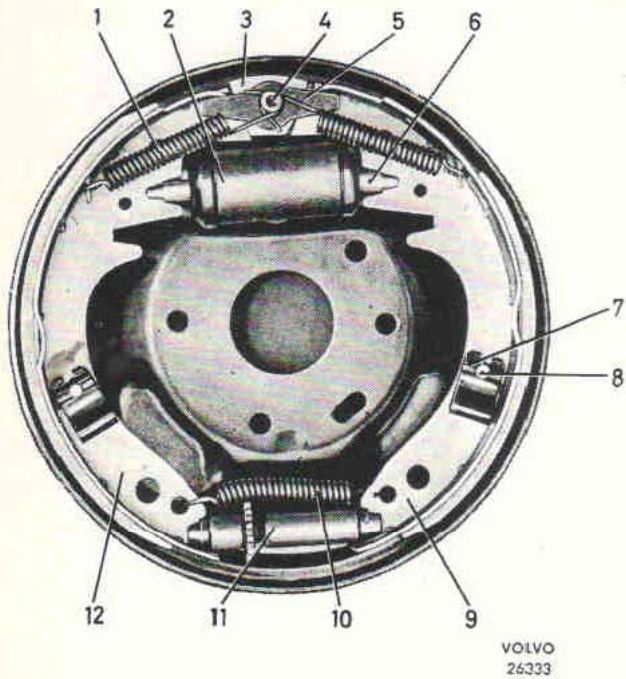
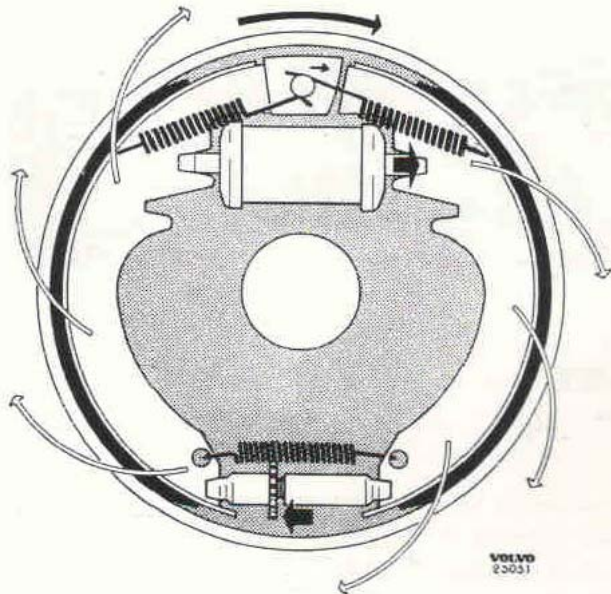

Fig. 9. Wheel brake unit, late production, right-hand front wheel.
Fig. 12. Brake application.
On late production drum brakes the brake shoes (12 and 9, Fig. 9) are movably attached to the brake backing plate by means of guide pins (8) and spring clips (7). The upper ends of the shoes are pressed against the pivoting centring block (3) by the return spring (1). The lower ends are joined by means of
the adjusting device (11) against which they are pressed by the spring (10), which also locks the toothed wheel of the adjusting screw. This arrangement means that the brake shoes are self-centring and both shoes partially self-applying (Duo-servo). When the brakes are applied, the wheel unit cylinder plungers press out the shoes against the brake drum by means of the plunger rods (6, Fig. 9). Due to the friction between the drum and lining, the shoes will follow round in the direction of rotation of the drum. The "floating" attachment of the shoes causes the primary shoe (9) to be pressed downwards and the secondary shoe (12) to be pressed upwards until its upper end encounters the centring block, see Fig. 12. The end of the secondary shoe is then displaced by the block so that the shoe is centred in relation to the drum. Since the pivoting centre of the secondary shoe is at the anchor stud (4, Fig. 9) and that of the primary shoe at the adjusting device, friction between the drum and lining will assist brake application, see Fig. 12. This action is also assisted by the fact that the primary shoe tends to follow round
Wheel brake units of this type were at first provided with longer linings than those shown in Figs. 9 and 11.